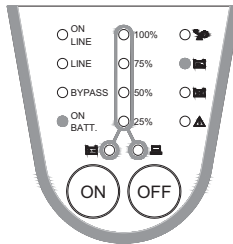

Fig. 4-7 Battery Low
- ✓ **BATTERY LOW:** This function is to inform users the remaining power capacity of the batteries. When batteries reach a low level condition, the UPS alarm will beep for half seconds every 1.25 seconds until running out of battery capacity. See Fig. 4-7.